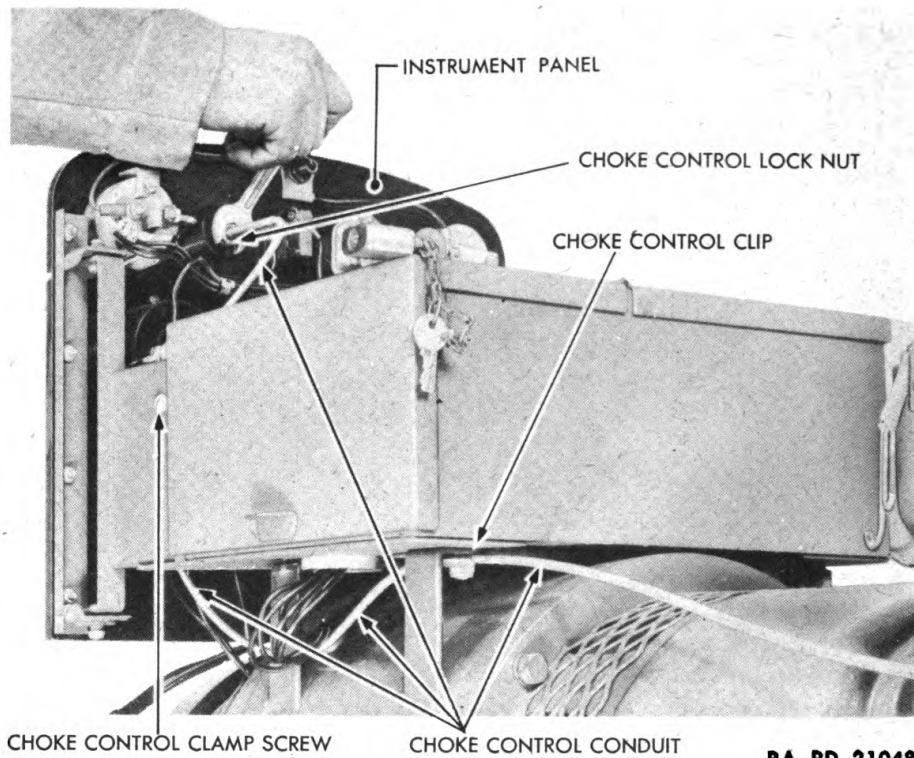

Figure 43 — Choke Control Assembly Removal
(2) Loosen conduit clamp screw at carburetor and loosen the screw attaching the choke wire to the choke valve lever.
(3) Screw the choke control lock nut completely off the threads (fig. 43) and pull choke control assembly out through the front of the instrument panel. The complete parts for the choke control assembly are shown in figure 44.